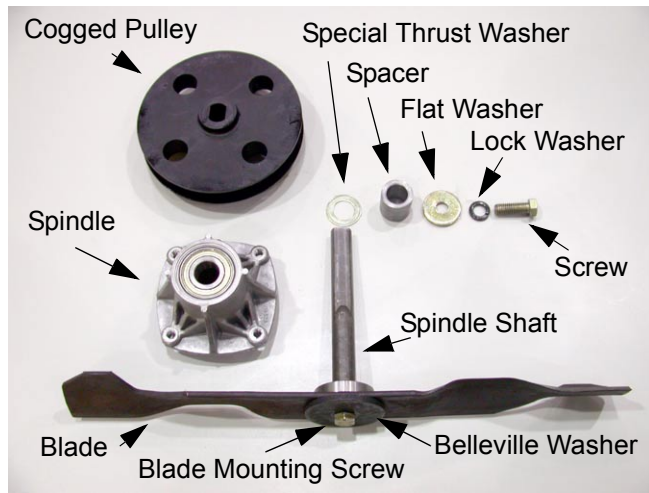

Figure 39
Components on bench. See Figure 39.
12.9. Inspect the housing for excessive wear or damage and replace as needed. See Figure 39.